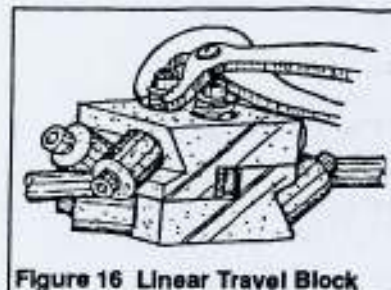

Figure 16 Linear Travel Block
- e. Be sure the linear travel block is adjusted to 28 pounds and no more than 30 pounds of closing force. Recheck closing speed after closing force is adjusted. (Figure 16)